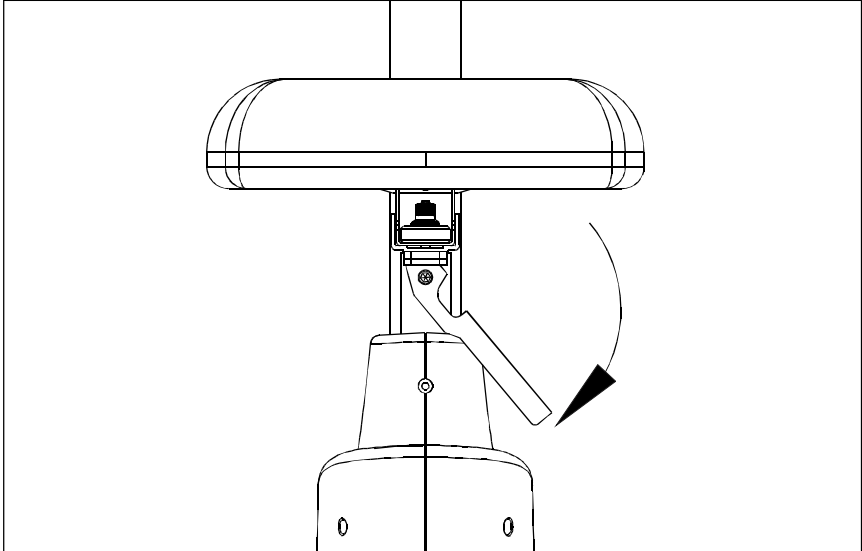

Fig.14
- 1. Push the seat adjustment lever downward as shown in Fig. 14.